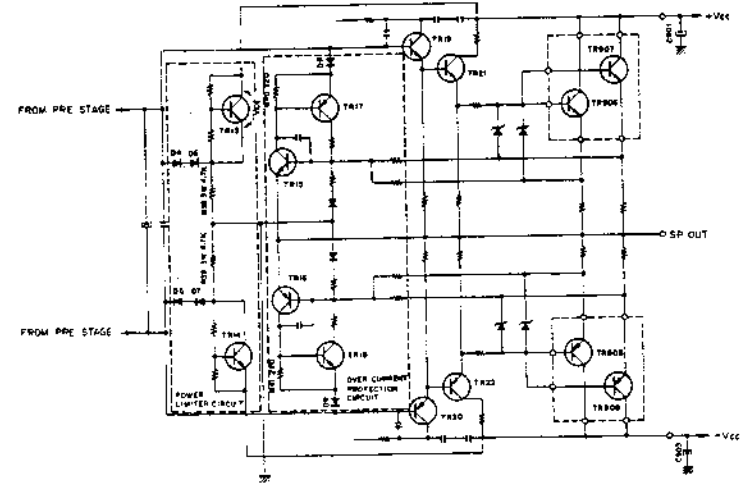
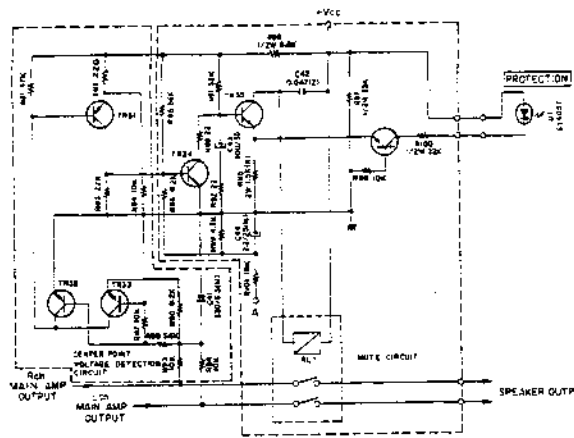

Fig. 13
Fig. 14
4) Over Current Protection Circuit (Refer to Fig. 13)
When the speaker terminal of the power amplifier is shortcircuited or when the load impedance equivalently becomes too low due to too many speaker connections, the output stage transistor breaks down because of excessive power consumption by the transistors or of excess current. The circuit shown in Fig. 13 composed of TR15 and 17 and TR16 and 18 prevents this damage. TR15 and 17 circuit operates for excessive + signal current and TR16 and 18 operate for excessive - signal. The case when there is a current overflow of + signal will be explained here. Ordinarily, TR15 base potential and the emitter potential are almost equal and TR15 is OFF. When the load R_L becomes lower than the power amplifier's specified load or is short-circuited, excess current flows to the output stage transistor. This causes the base potential of TR15 to become greater than the emitter potential and TR15 turns ON. When this happens, the signal to TR19 passes D8 and R40 and is dropped to the center (node) point. The output stage transistor, therefore, stops receiving the signal and the excess current does not flow. Also when TR15 is turned ON, TR17 base potential is decreased to turn on TR17. TR15 base potential is thereby further increased to make the operation fullproof. Also when TR15 is turned ON, relay RL1 (see Fig. 14) turns OFF and the power amplifier output is disconnected from the speaker. TR16 and 18 operate in the same way for excess signal current to protect the output stage transistor.
5) Power Limiter Circuit (Refer to Fig. 13)
6) Mute Circuit (Refer to Fig. 14)
When the power of the amplifier is turned on or off, pop and distortion noise generate to damage the speakers or produce unpleasant sound. The mute circuit of Fig. 14 prevents these.
7) Center (node) Point Voltage Detection Circuit (Refer to Fig. 14)
When there is DC potential at the power amplifier's speaker output terminal, the DC will flow to the speaker in the case of OCL circuitry and damage the speakers. For this reason, when there is a DC potential, a circuit is necessary to detect the potential to turn off the mute circuit relay RL1 and cut off the speaker from the power amplifier output. This circuit is called a center (node) point voltage detection circuit and is shown in Fig. 14.